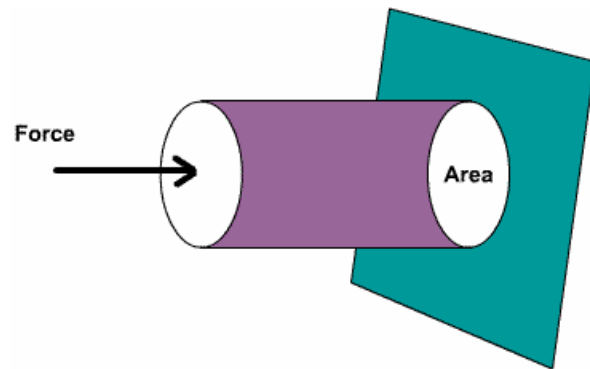

Fig. 1.9: Illustration of pressure definition
When a force (F) is applied on an area (A) of an enclosed liquid, a pressure (P) is produced as shown in Fig. 1.9.